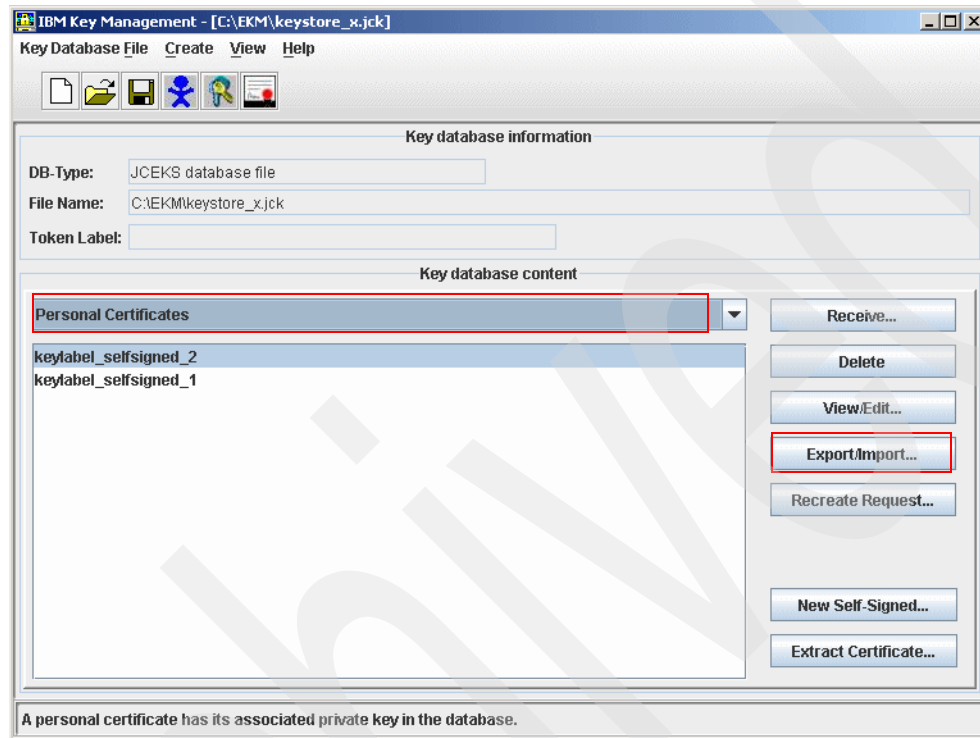

Figure 6-25 Selecting the Export/Import keys option
1. In the IBM Key Manager window (Figure 6-25), select **Personal Certificates** from the Key database content field and click **Export/Import**.